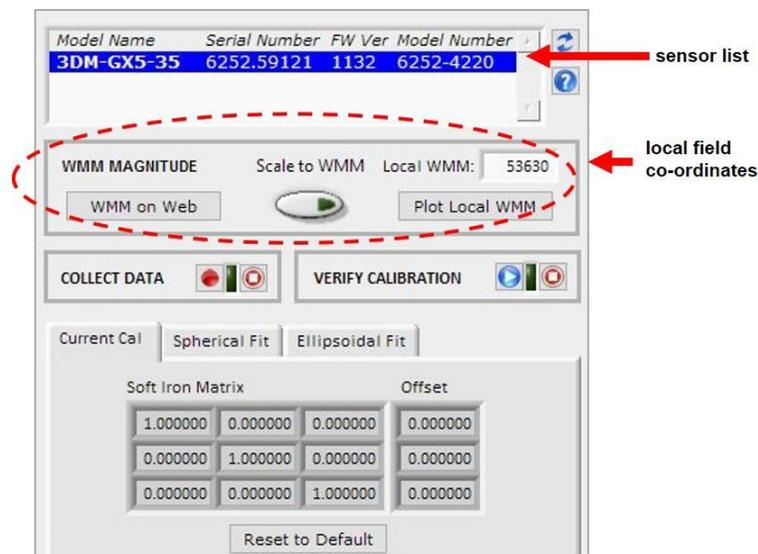

Figure 20 -Sensor Menu
- 3 The sensor should automatically appear in the sensor list. If not, use the Refresh button to query it and then select the sensor ( Figure 20 - Sensor Menu ).